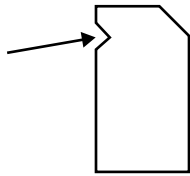

Figure 10
- i. The fixed jaw of the vice has a V cut into its face, as shown in Figure 10. What is the purpose of this V? 1 mark